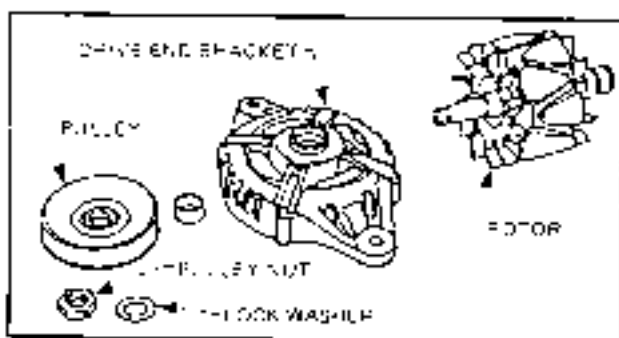

Figure 6D-7
6. Remove the four screws securing the front bearing retaining plate to drive end bracket, remove the retaining plate. Refer Fig. 6D-8.